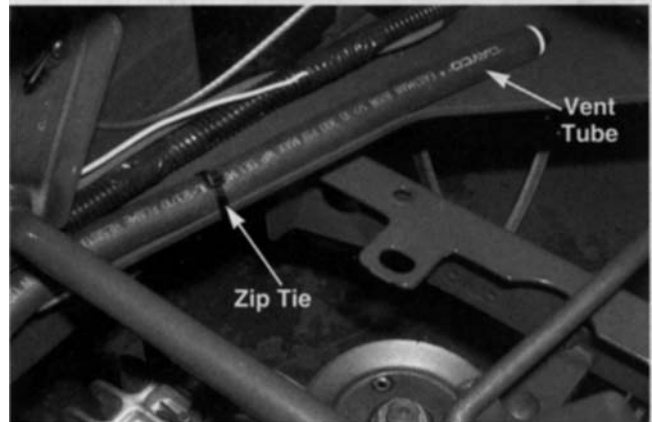

Figure 6-143.
21. Snip the zip tie that secures the hydrostatic vent tube to the frame. See figure 6-143.
Make certain the hydrostatic vent tube is zip tied back into place during reinstallation. See figure 6-143.